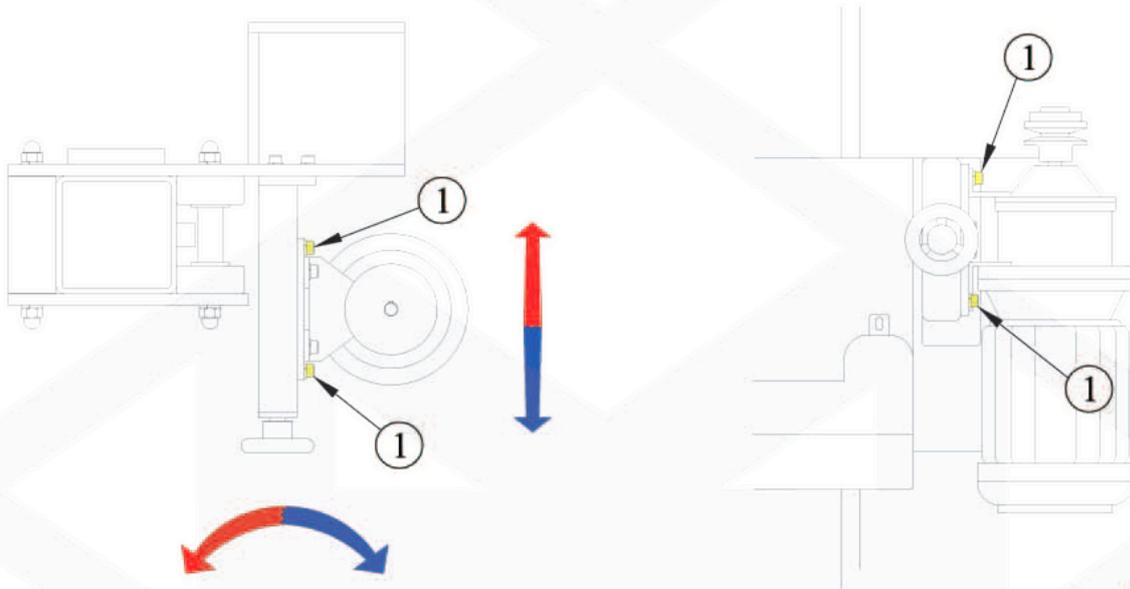
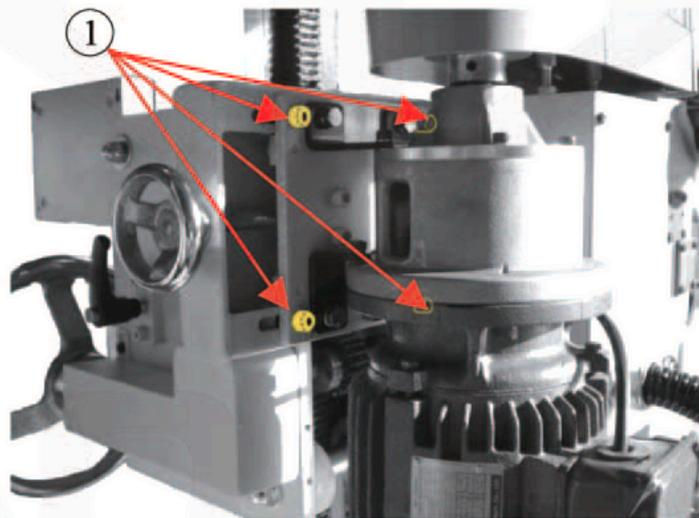

Fig.2b
Fig.2c
2.2 Rotate the hand wheel on motor mount behind to modify the belt tension; the red direction is loosening, and the blue direction is tightening. See **Fig.2b** and **Fig.2c**.